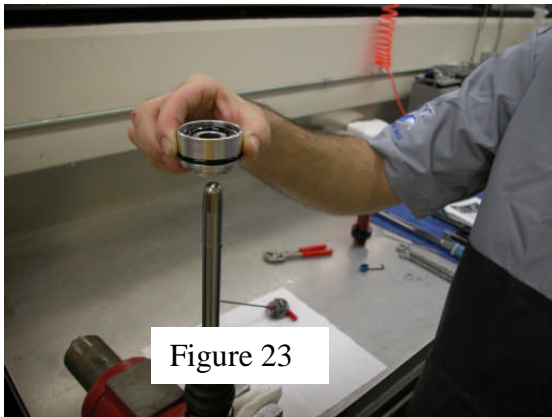
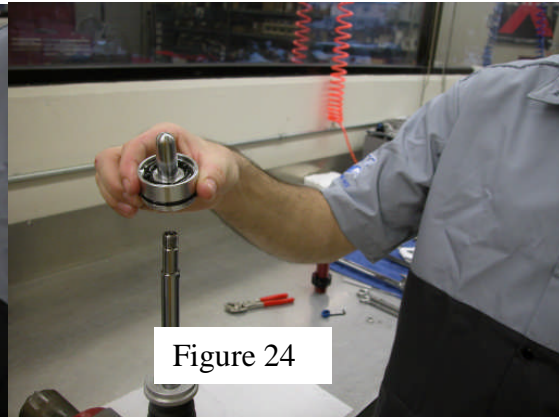

Figure 23
Figure 24
38. Lubricate the bearing assembly seals with an ample amount of assembly lube. Slide the bearing assembly onto shaft with the threaded side facing the bearing cap. **(Figure 23)** This should be done in a single smooth motion to avoid damaging the seals. If a seal hangs up on the edge of the shaft, **DO NOT FORCE IT ON**. Remove the bullet tool, with the bearing assembly still attached, from the shaft end. **(Figure 24)** Remove the bearing assembly from the bullet tool, and repeat this step.